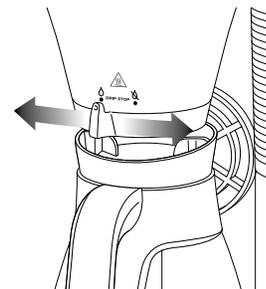

Fig. 16
- 1 When brewing a carafe, close the Drip Stop to pause the brew cycle and pour a mug. Remember to reopen the Drip Stop to complete the brew. (Fig. 16)